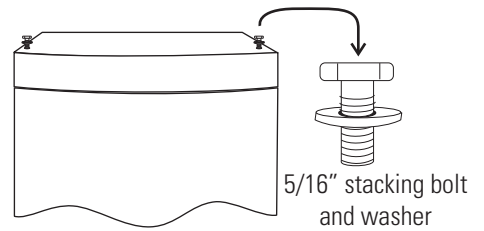

Figure 1-6. Bolt Holes
3. Remove the two plastic plugs from the bolt holes in the exterior top of the bottom unit. Install the ½" long 5/16-18 stacking bolts and washers (Figure 1-6) into the bolt holes - do not tighten the bolts at this time.